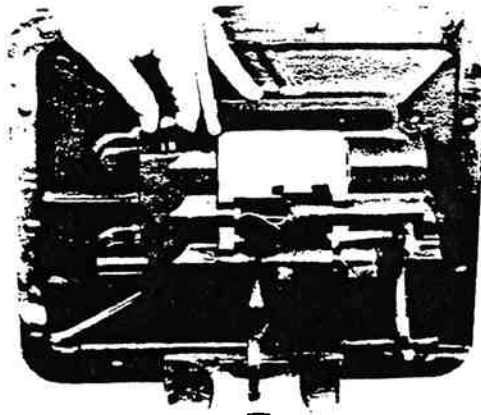

Figure 13-173. Interlock Ball Installation.
7. Install $\frac{3}{4}$ " interlock ball in bore in front boss (figure 13-173).